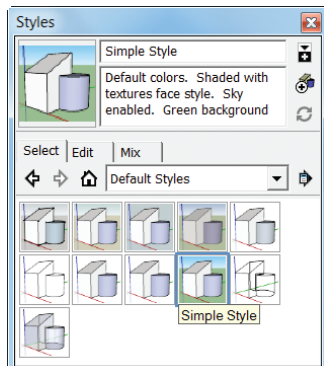

Figure 5.2: The Styles window
- **Styles**—Most customization options for SketchUp's views are available as Styles. These can contain custom lines, backgrounds, or watermarks. Many excellent styles have been premade and ship with SketchUp or are downloadable from the Internet. Styles can also be saved within animation tabs, which allows for multiple styles to be used in the same model. Styles are applied from the Styles window—where you can also make customizations and edits (see **Figure 5.2**).